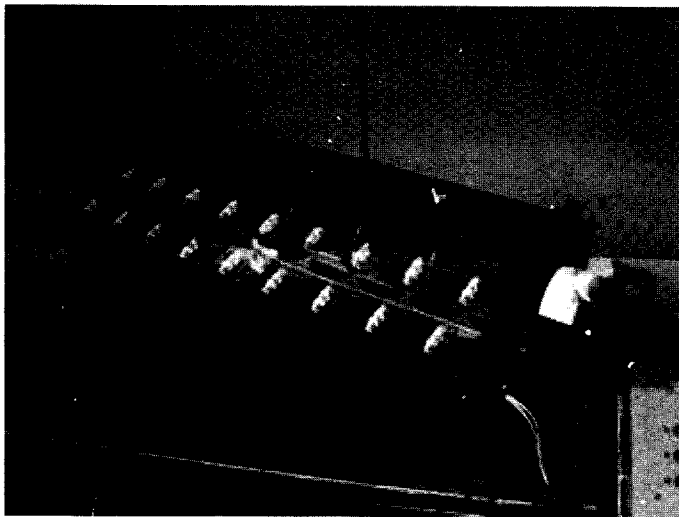

Figure 7
- e. Carefully set the blower scroll / heater assembly on top of the unit, being careful not to over extend the heater and motor wiring. Figure 7.